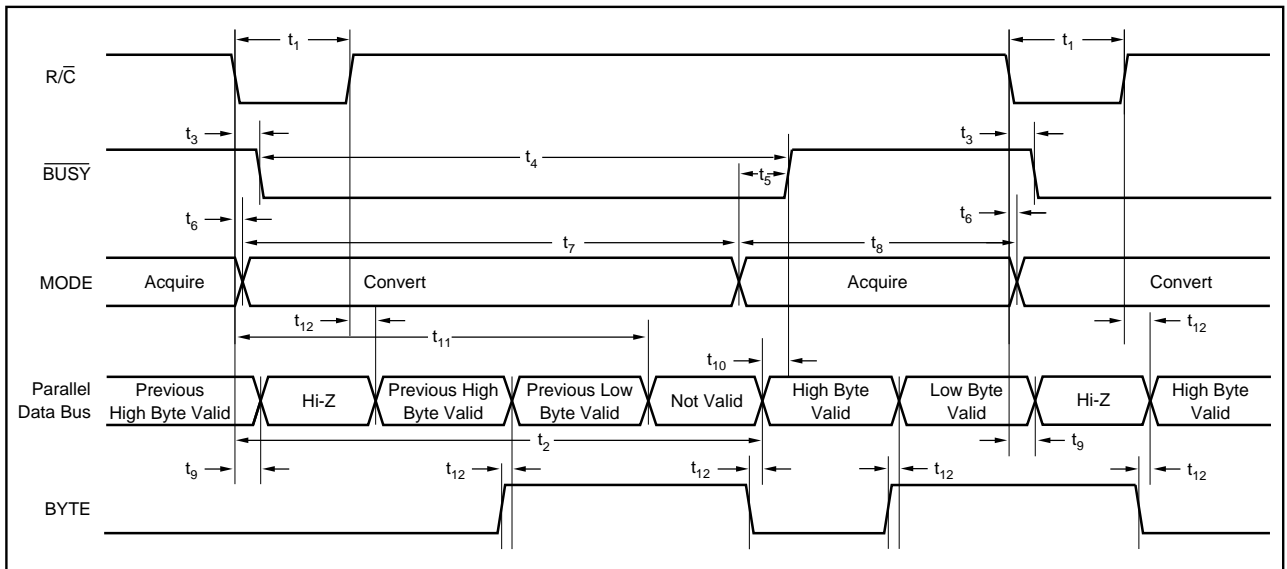

FIGURE 2. Conversion Timing with Parallel Output ( $\overline{\text{CS}}$  and  $\text{DATACLK}$  tied LOW,  $\overline{\text{EXT/INT}}$  tied HIGH).
The ADS7807 will begin tracking the input signal at the end of the conversion. Allowing 25µs between convert commands assures accurate acquisition of a new signal. Refer to Tables III and IV for a summary of  $\overline{CS}$ ,  $R/\overline{C}$ , and  $\overline{BUSY}$  states and Figures 2 through 6 for timing diagrams.
NOTE: (1) See Figures 2 and 3 for constraints on data valid from conversion "n-1".
After conversion 'n' is completed and the output registers have been updated,  $\overline{\text{BUSY}}$  (pin 24) will go HIGH. Valid data from conversion 'n' will be available on D7-D0 (pins 9-13 and 15-17).  $\overline{\text{BUSY}}$  going high can be used to latch the data. Refer to Table VI and Figures 2 and 3 for timing constraints.
After conversion 'n' has been initiated, valid data from conversion 'n-1' can be read and will be valid up to 12 $\mu\text{s}$  after the start of conversion 'n'. Do not attempt to read data beyond 12 $\mu\text{s}$  after the start of conversion 'n' until  $\overline{\text{BUSY}}$  (pin 24) goes HIGH; this may result in reading invalid data. Refer to Table VI and Figures 2 and 3 for timing constraints.